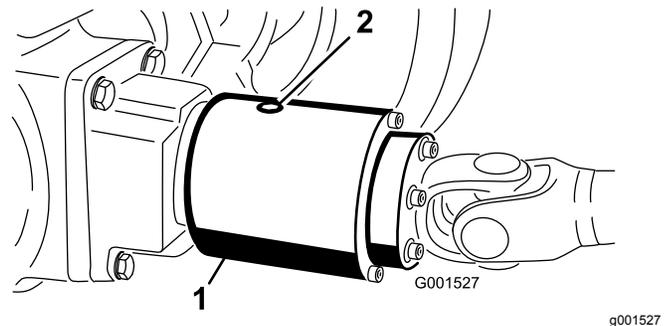

Figure 63
2. Rotate the clutch (Figure 63) so that the check plug is positioned at 4 o'clock.